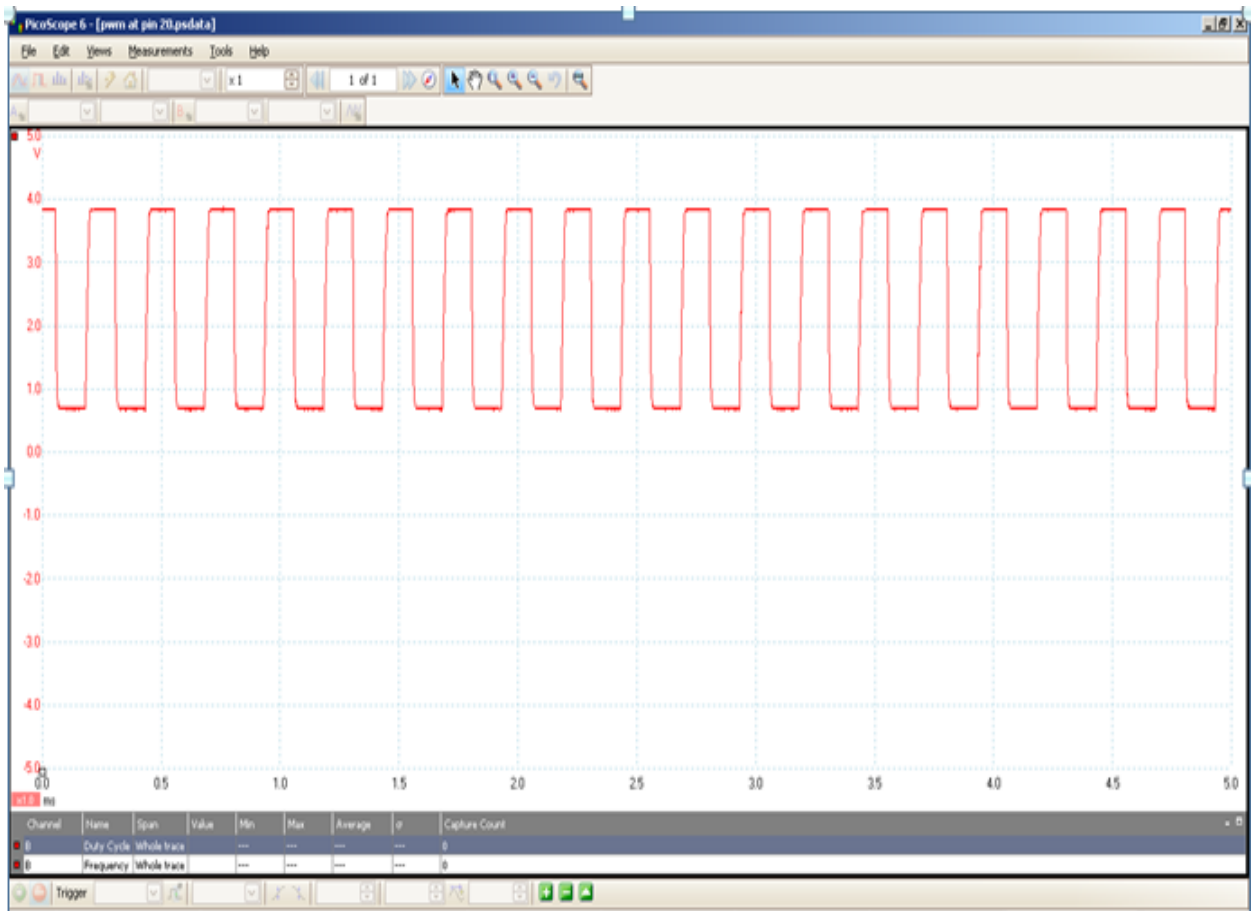

Figure 2: PWM output waveform at Pin number 5 of neoECU10
1. PWM output waveform at Pin number 5 of neoECU10 is shown in (Figure 2)